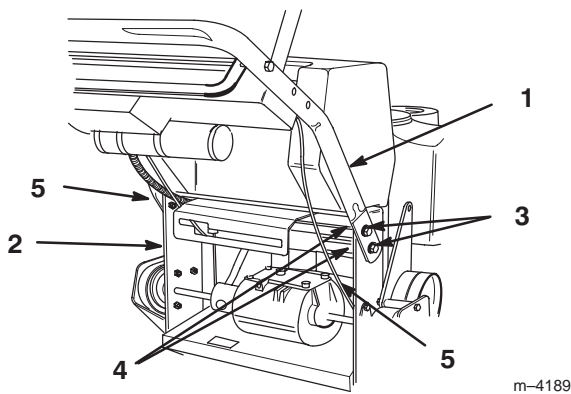

Figure 4
2. Secure each side with (2) 3/8 -16 x 1" (26mm) flange bolts and flange nuts (Fig. 4). Torque bolts to 25 ft. lbs. (34 N•m).
3. Route cables and wire harness inside of frame (Fig. 4). Secure wires and cable to handle with wire tie.